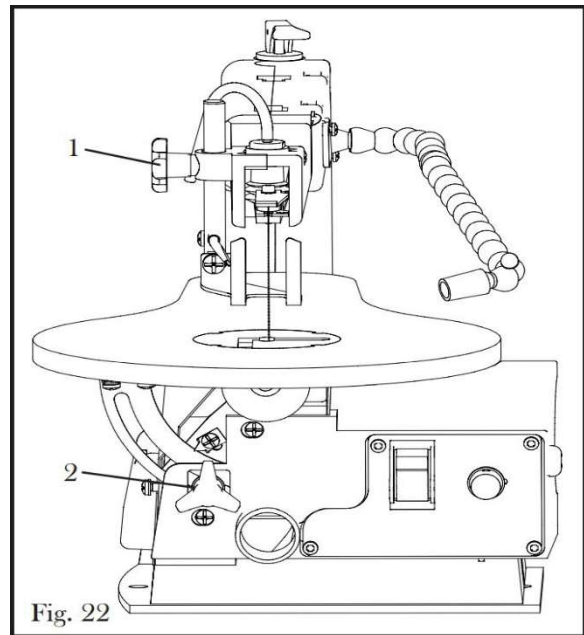

Figure 22
2. Move the blade guard foot to the highest position by loosening the height adjustment knob (1). Then retighten the height adjustment knob. (see figure 22)
3. Now adjust the table to the desired angle by loosening the table bevel locking knob (2). Once table has been adjusted to the desired angle lock the adjustment in place by tightening the table bevel locking knob (2). See figure 22.